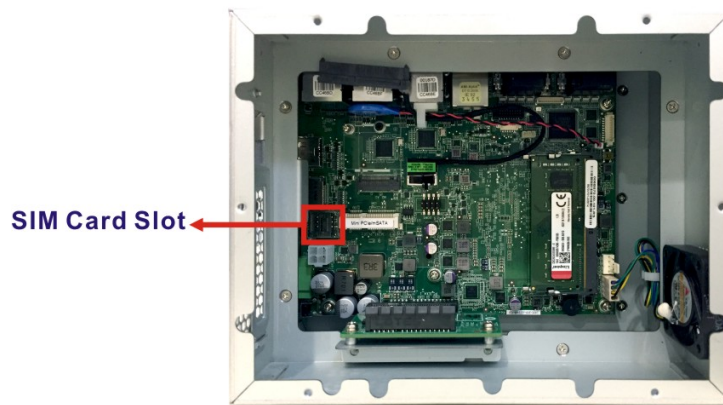

Figure 3-7: Unlock SIM Card Slot Cover
Step 1: Locate the SIM card slot (Figure 3-7).